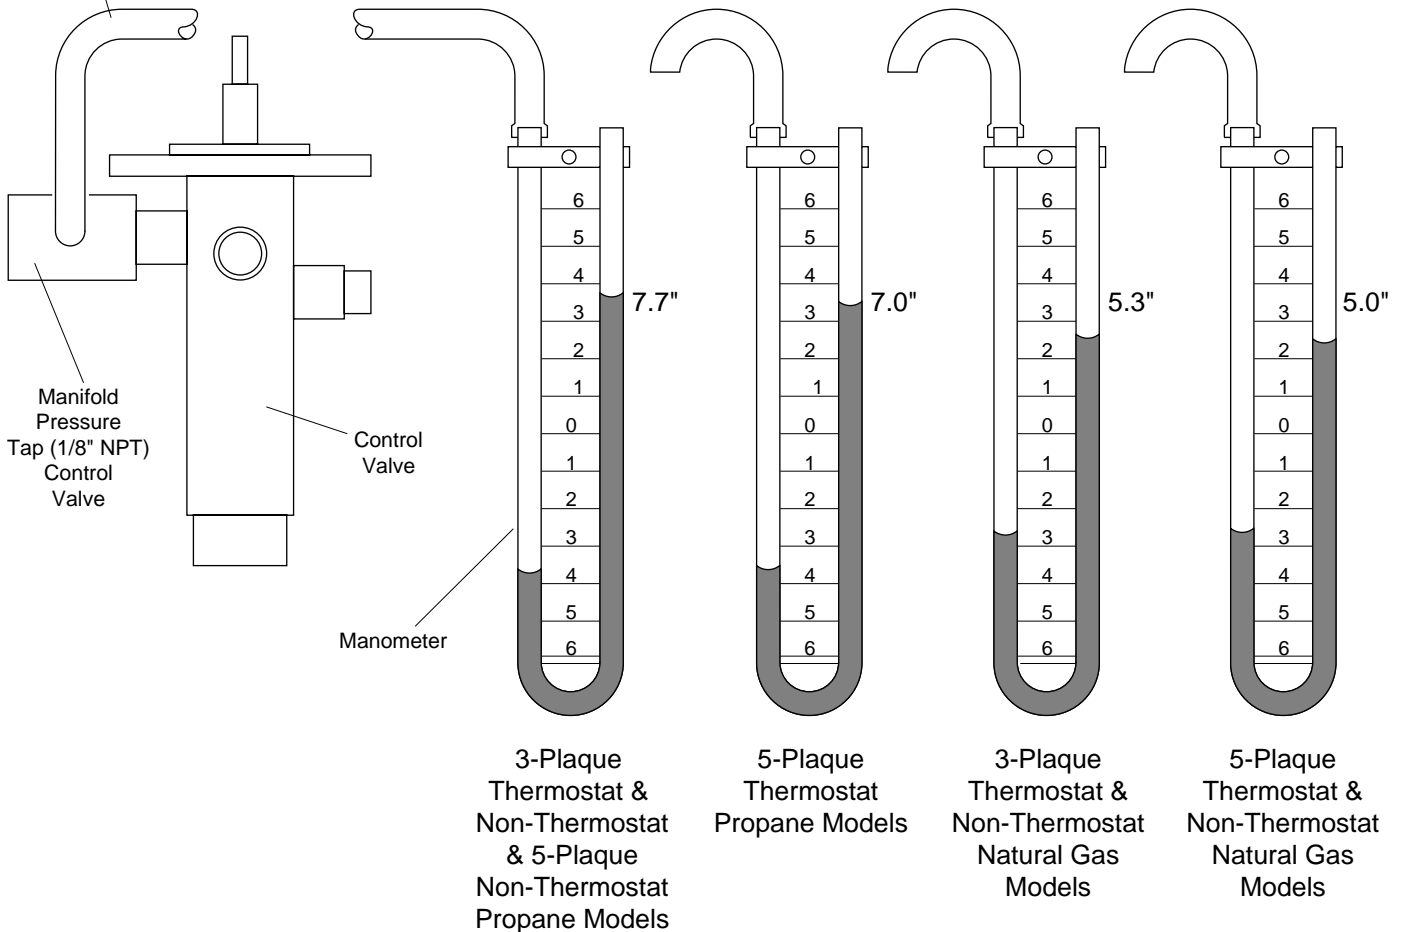

Figure 21. Measuring Manifold Pressure
4. Check gas supply pressure at the pressure tap on the manual shut-off valve below the heater and at the manifold pressure tap next to the control valve (see Figure 21, page 17) to be sure that enough pressure is available to the system according to the "SPECIFICATIONS" section on page 13. If the inlet pressure is correct and the manifold pressure is low, replace the regulator, control valve or inlet tubing as required.